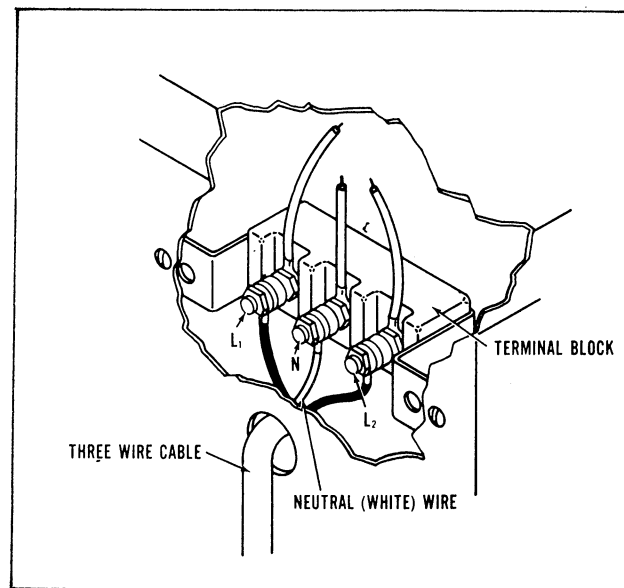

Figure 1
To connect the electric dryer to a 120/240 volt, 60 cycle, three-wire circuit, remove the plate covering the terminal block and attach the three wire cable or pigtail as shown in *Figure 1*. The white or neutral wire is always connected to the silver (N) terminal of the terminal block. The other two wires can be interchanged on the remaining two terminals. Be sure all electrical connections are secure, and that they conform to local electrical codes or ordinances. These codes or ordinances will also govern how the dryer is to be grounded. In many instances, neutral terminal grounding is recommended. In some areas, however, it will be necessary to use a separate ground wire. These two methods of grounding are described in this section under "Grounding".